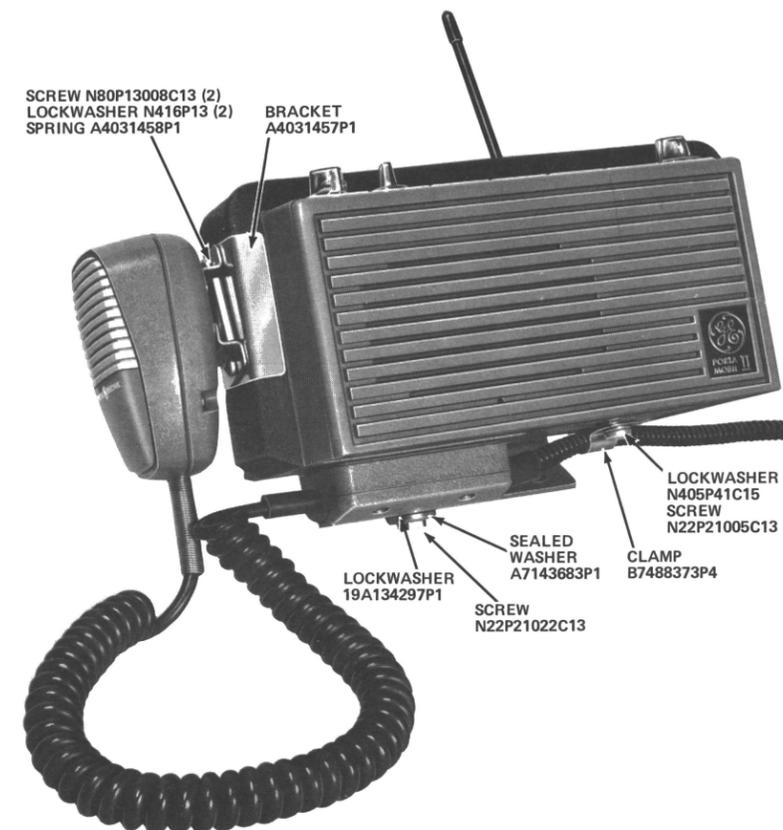

Figure 4 – Power Cable and Microphone Connections
A. Connect the power cable and microphone assembly to the Porta-Mobil II as shown in Figure 4.
4. Mount the Control Unit according to Steps 2 through 7 as shown on Figure 4, using the long threaded studs, 3/4-inch hexnuts and lockwashers for Steps 2 and 3.